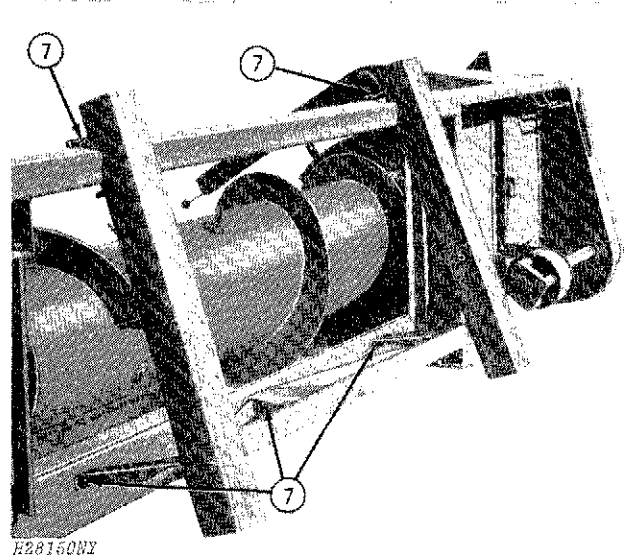

Fig. 51-Removing Shipping Skid
7. Remove the two clamps and the three uprights from the platform, and remove skid (Fig. 51). Discard clamps, uprights, and skid.